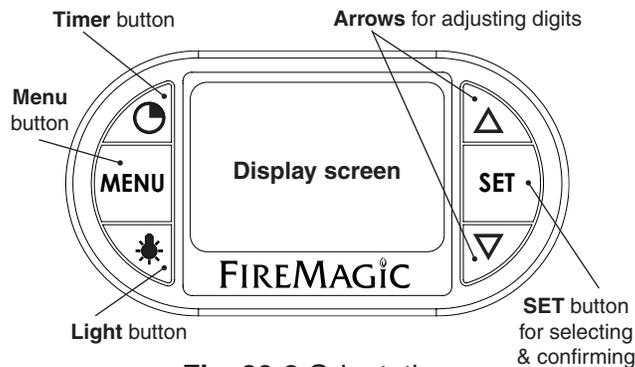

Fig. 30-2 Orientation
Read the following sections completely regarding thermometer operation. Refer to Fig. 30-2 for thermometer orientation and button locations.
1. Press the light button to turn both the interior oven lights and knob backlights ON (see Fig. 30-2). The interior oven lights will temporarily shut off when the hood is closed (except for Magic View models).